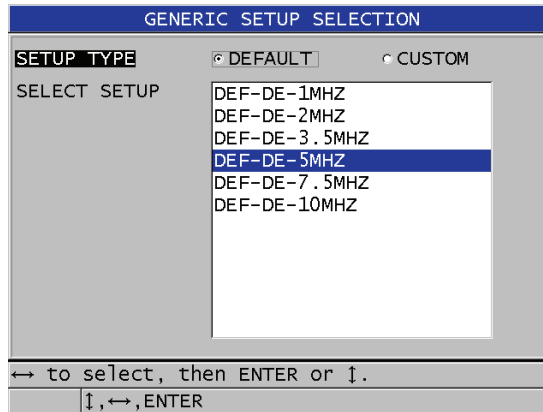

Figure 12-1 The GENERIC SETUP SELECTION screen
2. In the **GENERIC SETUP SELECTION** screen that appears (see Figure 12-1 on page 211):